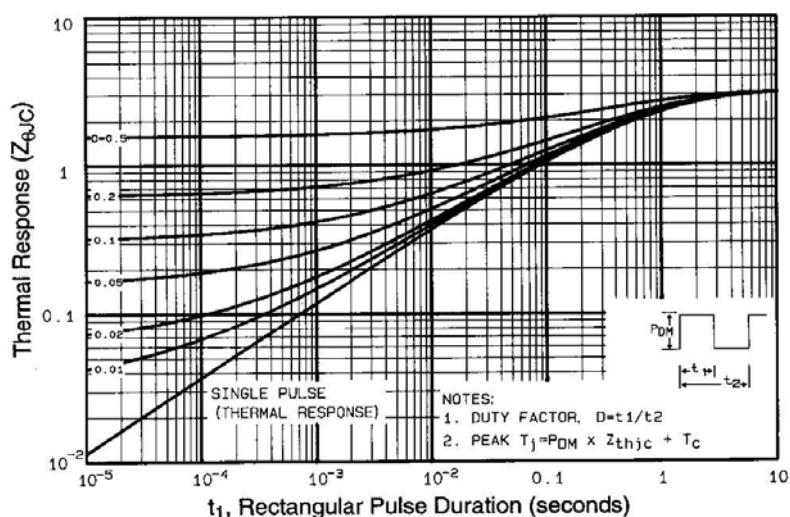

Fig 11. Maximum Effective Transient Thermal Impedance, Junction-to-Case
① Repetitive rating; pulse width limited by max. junction temperature (See Figure 11)
③ $I_{sp}\leq 10\text{A}$, $di/dt\leq 120\text{A}/\mu\text{s}$, $V_{DD}\leq V_{(\text{BR})\text{DSS}}$, $T_J\leq 150^\circ\text{C}$
⑤ $t=60\text{s}$, $f=60\text{Hz}$
② $V_{DD}=50\text{V}$, starting $T_J=25^\circ\text{C}$, $L=16\text{mH}$